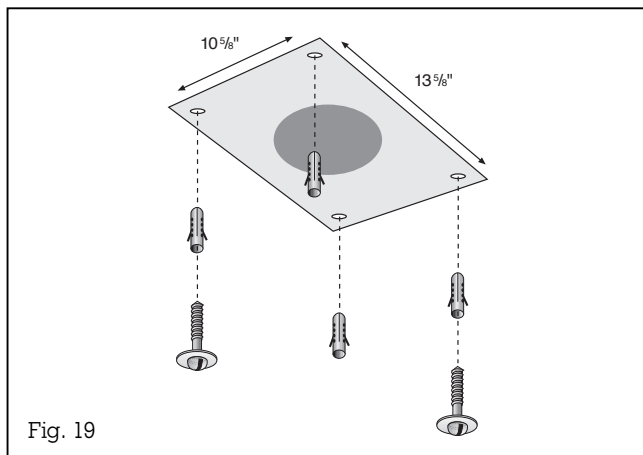

Fig. 19
2. Drill 4 holes Ø 8 mm for the wall plugs. Push the plugs flush with the ceiling (Fig. 19).